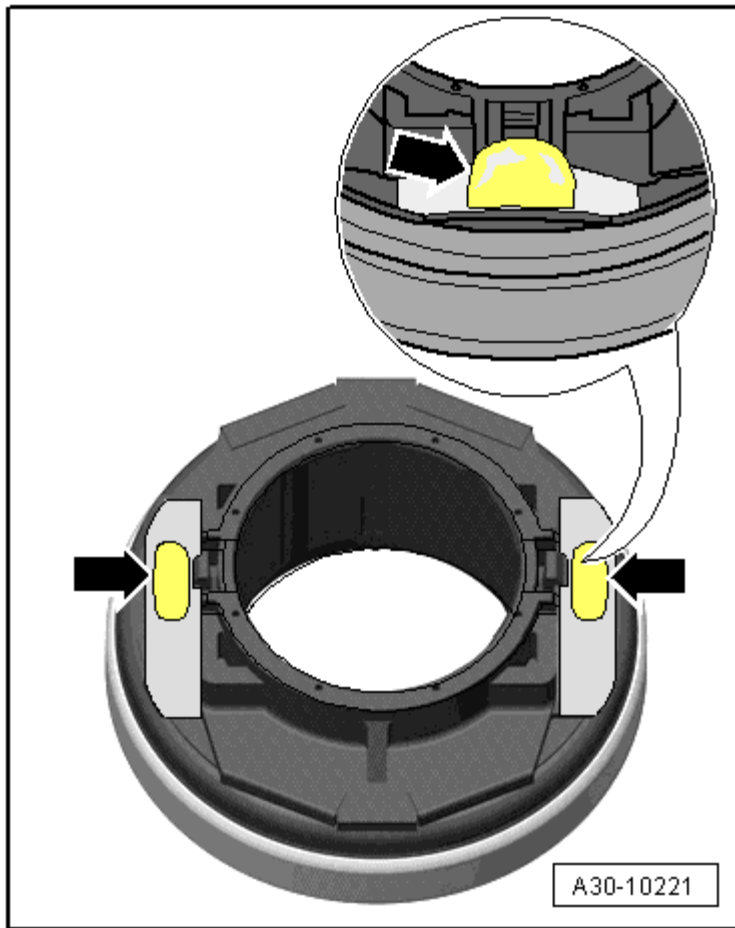

Fig. 45: Lubricating Release Bearing
- Lubricate the release bearings generously with adhesive lubricating paste G 000 150. Refer to Fig. 45.